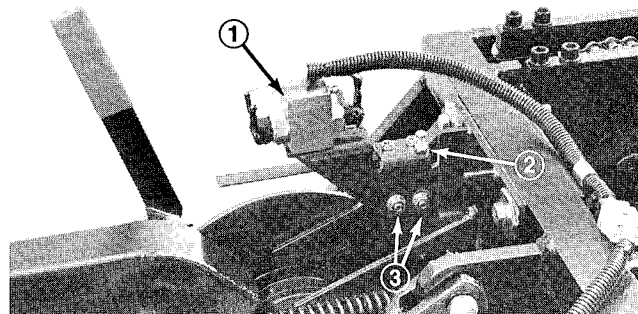

Figure 23
5. Check coring head switch (Fig. 23) with a continuity tester or ohm meter and replace if damaged. The switch plunger must be depressed when the coring head is in the raised position.
D. Loosen adjusting screw jam nut and (2) flange nuts (Fig. 23).
H. Tighten adjusting screw jam nut and (2) flange nuts.